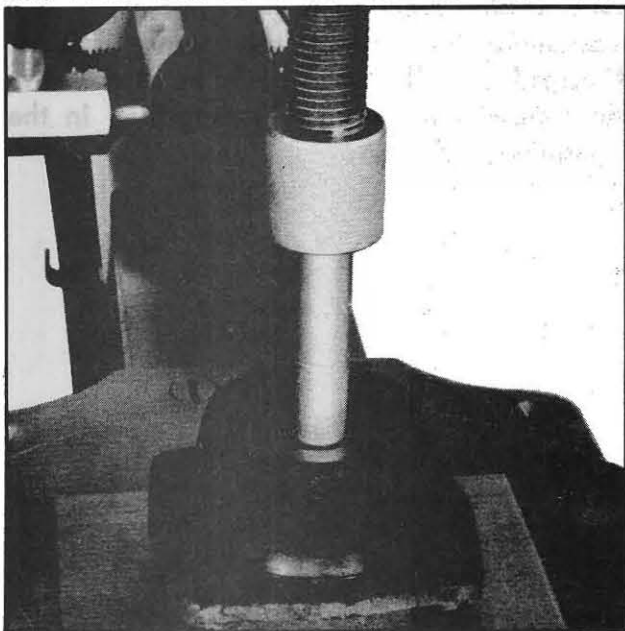

Fig. 285
5. To replace the oil seal, use a No. 9 step plate, as shown in Fig. 285, to press out the old seal, pressing the seal toward the outside of the housing. Make certain that the step plate clears the snap ring still in the housing.